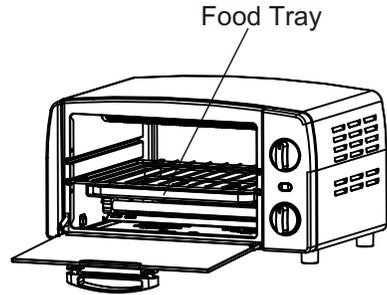

fig.12.
- 1、 Slide the Food Tray into the bottom rack level. See fig.12.